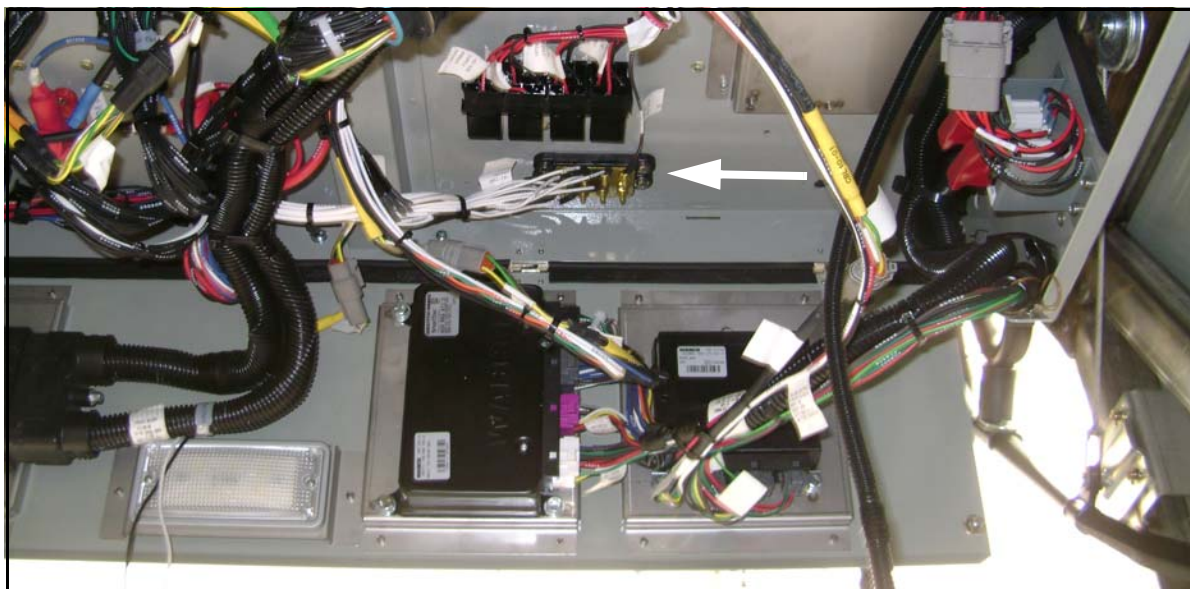

Figure 7.
19. Route the ring terminal end of the remaining cut section of the harness, p/n 07-12-4975, to the ground block shown in Figure 7.